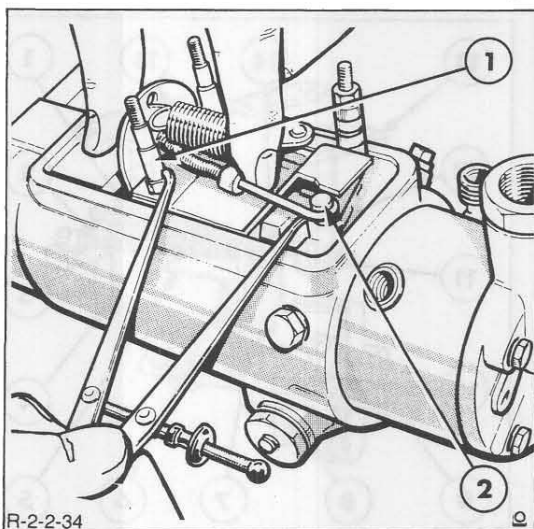

Figure 36
23. Set the internal dimension between the metering valve lever pin and the large shoulder above the hexagon head of the adjacent governor housing stud to the dimension quoted in the Test Plan, Chapter 8. Light pressure should be applied to the governor control arm to hold the metering valve in fully open position and the measuring gauge held parallel to the pump body, Figure 36. Adjustment is made by screwing or unscrewing the nut on the end of the hooked lever.